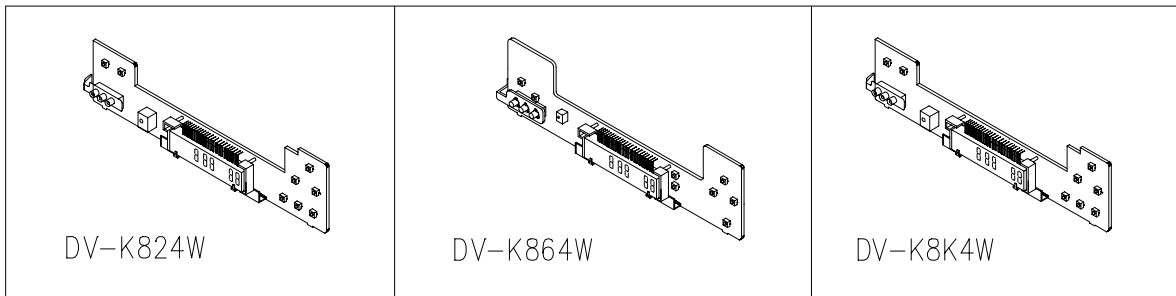

FIG. 5-1
5. PCB LOGIC ASS'Y REMOVAL (FIG. 5-1)